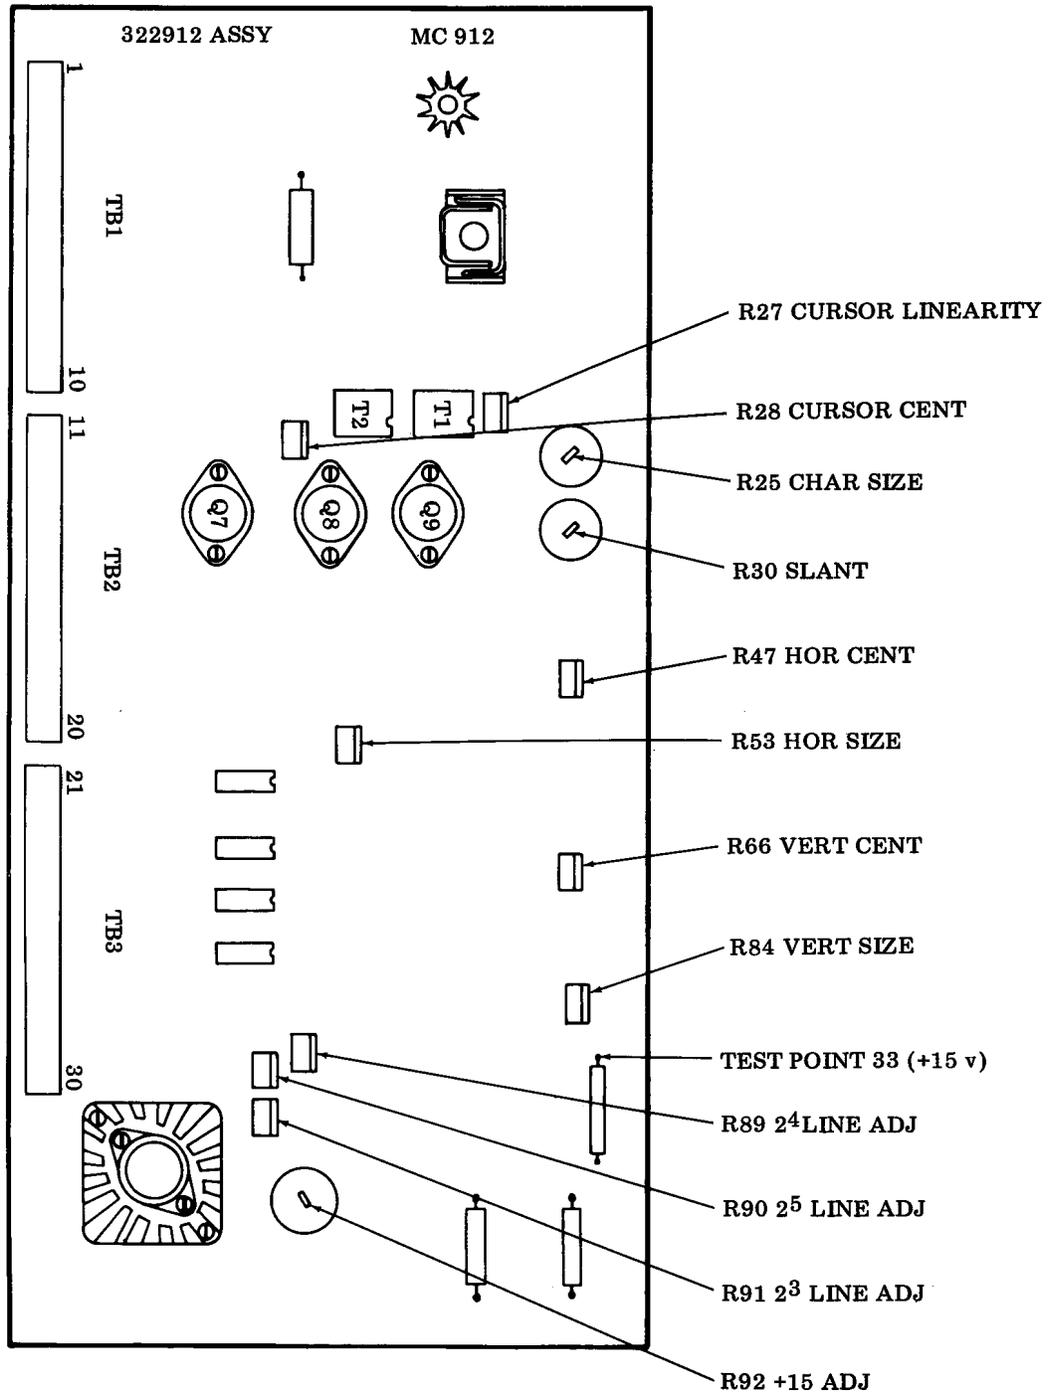

Figure 4 - TP322912 Function Generator
2.13 Positive 15 Volt dc (Figure 4)
2.14 Horizontal Size and Centering (Figures 4 and 5)
2.15 Vertical Size and Centering (Figures 4 and 6)
2.16 Character Size (Figure 4)
2.17 Line Spacing (Figure 4)
2.18 Cursor Centering (Figure 4)
2.19 Slant Italics (Figure 4 and Reference 1.02)